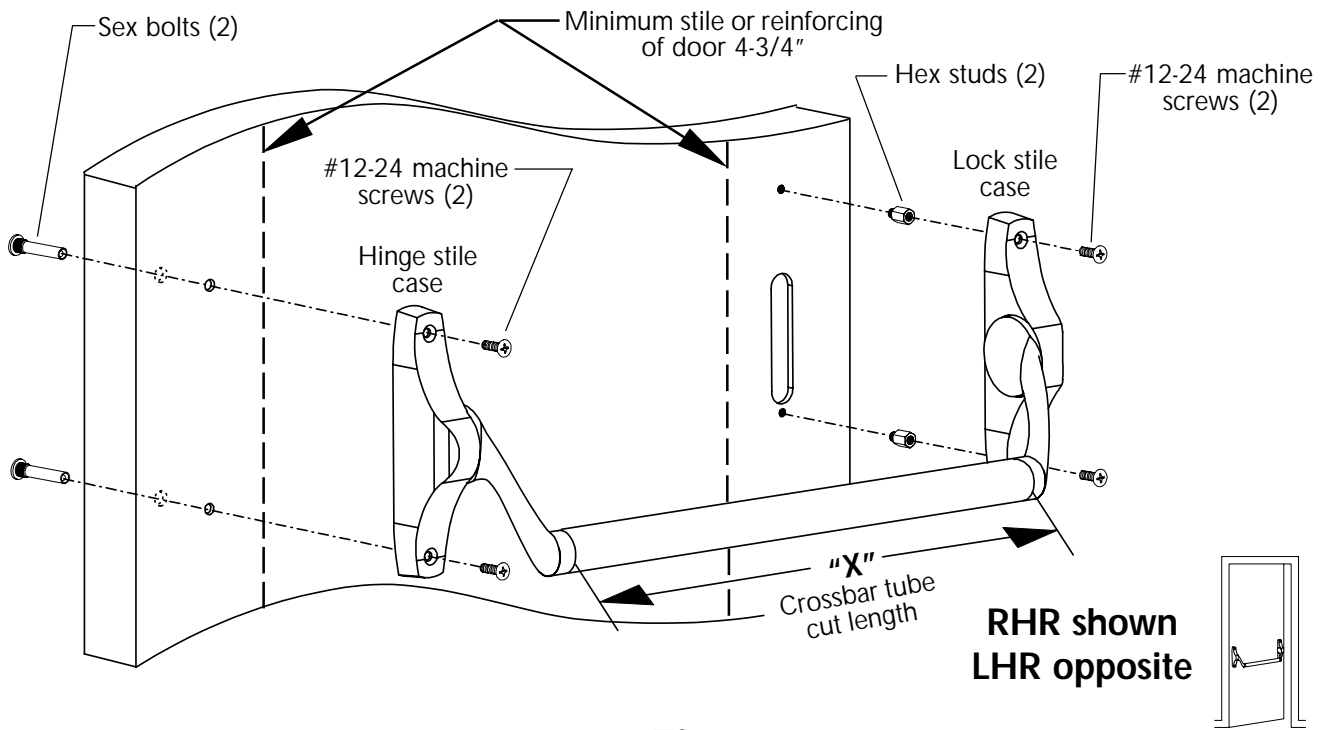

Figure 4
14. Prepare frame for strike (Figure 4).